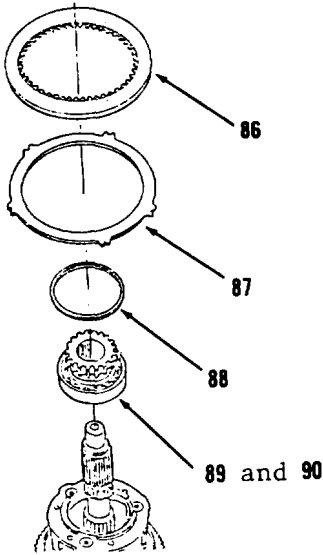

Figure 14-62.
- 16. Install items 90 and 89 as an assembly, ring (88), plate (87) and two discs (86, Figure 14-62).